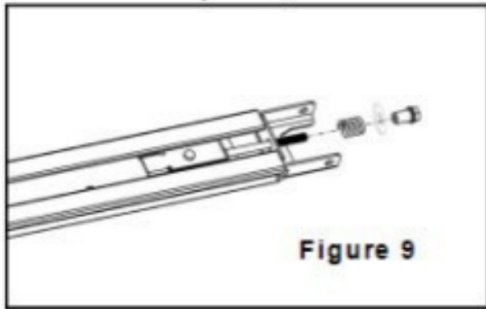

Figure 9
1. As Fig.9, release the nut & spring.